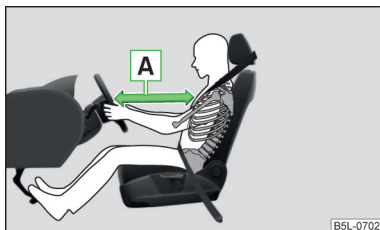

Fig. 8
- For the driver and front passenger it is important to maintain a distance of at least 25 cm to the steering wheel or dash panel » Fig. 8 - A. If you do not keep this distance, the airbag system may not protect you - danger of fatality! The front seats must always also be correctly adjusted to match the body size of the occupant.